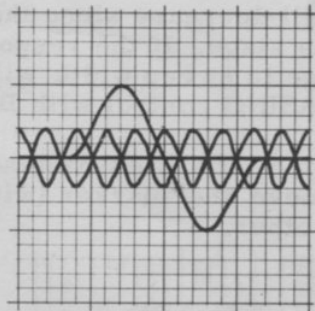

FIG. 14. DISCRIMINATOR RESPONSE — 400 CYCLE MODULATION
9. Turn the SIGNAL switch to MOD. R.F. A pattern similar to figure 14 will appear on the oscilloscope if the discriminator secondary is not aligned perfectly. Reduce the SIGNAL ATTENUATORS to as low a setting as possible with the 400 cycle pattern still showing.